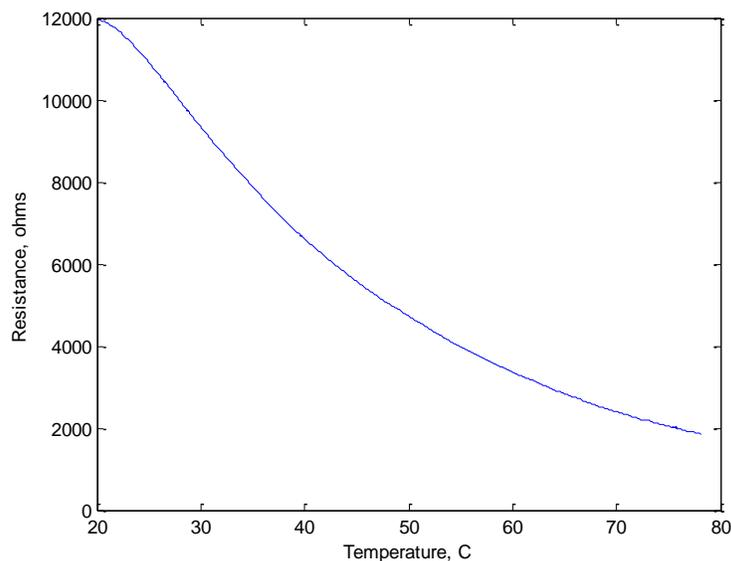

Figure 1. Thermistor temperature-resistance characteristic.
In this portion of the lab assignment, we will design and construct a temperature measurement system. The system will use a *thermistor* to detect temperature changes. A thermistor is a device whose electrical resistance changes as a function of the temperature of the thermistor. The thermistor we will use, for example, has a temperature-resistance curve approximately as shown in Fig. 1. It is worthwhile noting that the relationship between temperature and resistance is not linear. However, during the design process it is common to approximate the data as a straight line – at least over some range of temperatures.
It can be seen from Fig. 1 that the temperature can be inferred from the resistance of the thermistor. However, resistance is not a common quantity to use to represent a physical parameter – it is much more usual to use voltage to represent the parameter. (Voltages are generally easier to use than resistance to represent information. For example, digital logic circuits generally operate based on voltages applied to them.) We will design a circuit which outputs a voltage, from which the temperature of the thermistor can be inferred.
3. Using the temperature-resistance curve provided in Figure 1, choose a value for R such that v_{out} changes by at least 0.5V over the specified temperature difference.
In general, design is an *iterative* process. As new information becomes available, the design is revised to ensure that the design requirements are met or the design requirements are revised to ensure that they are realistic. Since this is our first experience with design, we will not iterate on the preliminary design from the pre-lab. Our pre-lab analysis, however, still provides valuable information which can be used to discuss our final design performance relative to system requirements. For example, we may claim that the design requirements were not met because our thermistor did not have the sensitivity provided in Figure 1 or that our fingertips did not apply the desired 37°C temperature. Either way, we have a reason why we did not meet the design requirements – this can be important when discussing your system performance relative to the design requirements with your customer!